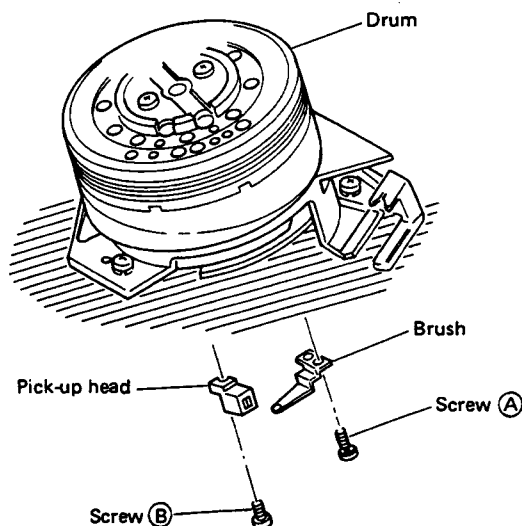

Fig. 2-17 Brush and pick-up head replacement
1. Take out screw (A) (Fig. 2-17) and replace the brush.
2. Unsolder the pick-up head, take out screw (B) and replace the pick-up head.